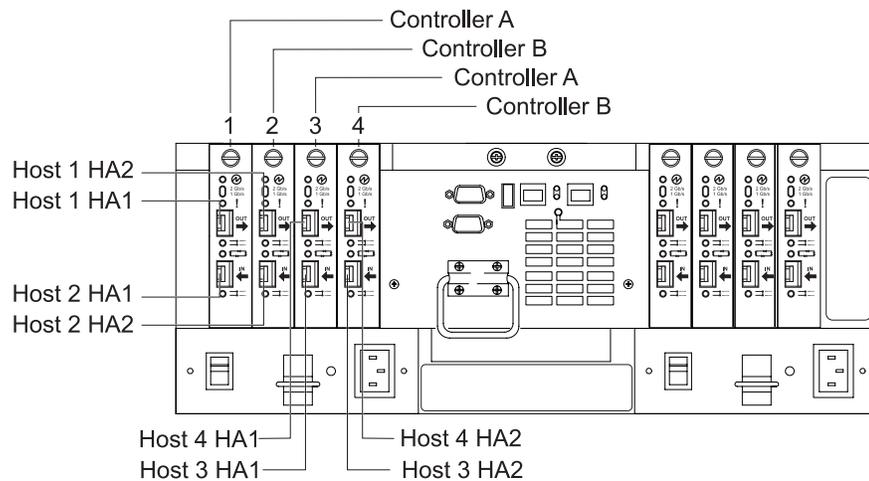

Figure 79. Connecting hosts directly to the controller
1. Connect the first host (Host 1) to the DS4500 Storage Subsystem, as shown in Figure 79.
2. Connect a second host (Host 2) to the DS4500 Storage Subsystem, as shown in Figure 79.
3. Connect a third host (Host 3) to the DS4500 Storage Subsystem, as shown in Figure 79.
4. Connect a fourth host (Host 4) to the DS4500 Storage Subsystem, as shown in Figure 79.